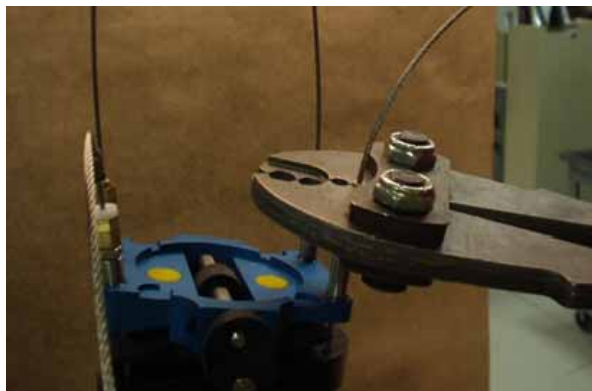

Figure 59 - Verify Crimps with Appropriate Crimpers
23. If smaller cable crimpers were used for ease, finish crimping all four ferrules with #9000827 cable crimpers, or equivalent. Use smallest opening in jaws (Figure 59).